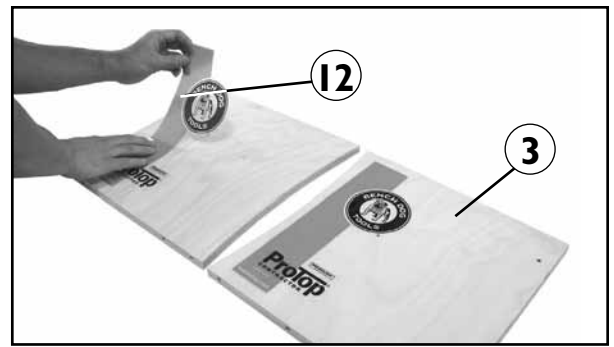

Fig. 2
2. Attach the two decals (12) to the side panels. The decals go on the outside of the left and right side panels (4 and 5). The right side panel decal is positioned near the front curved edge, as shown in **Fig 2.** In this photo the person is installing the decal on the left side panel, about two inches from the back edge. If you find it easier, attach the decals AFTER your router table is fully assembled.